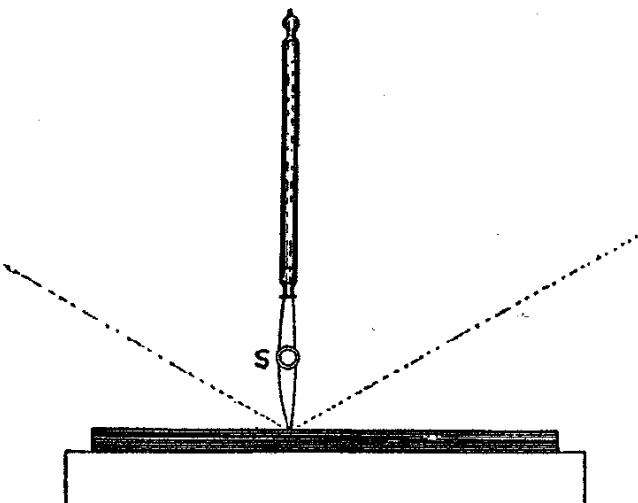

FIG. 20.—Setting a Drawing Pen.
**Setting a drawing pen.** A drawing pen of good material will be serviceable usually for a long time before it is necessary to reset it. In some cases, however, the pen, after comparatively little use, requires attention. When necessary, the two nibs of the pen should be brought into contact by means of the screw S (Fig. 20); then, holding the pen in a vertical position, the nibs are made of the same length by rubbing the end of the pen on an oilstone. The end of the pen should not be flat but carefully rounded. The rounding may be effected by moving the pen from side to side during the process of rubbing as indicated by the dotted lines in Fig. 20. The nibs are unscrewed afterwards and each worked up to a good edge, which should be rounded by slightly rocking the pen between the fingers